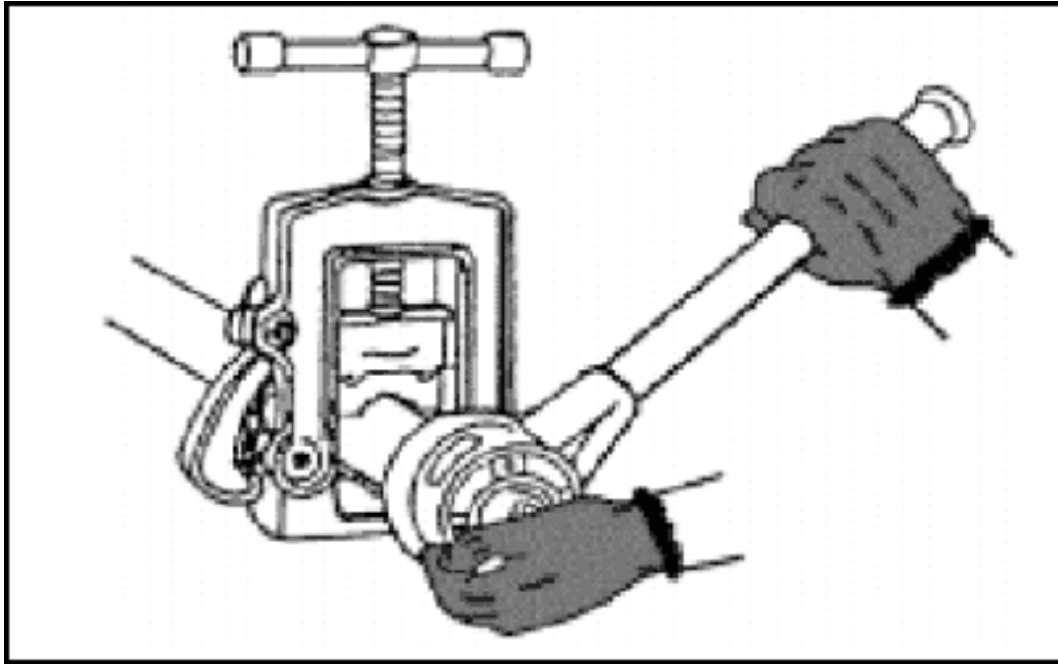

Figure 6-29. Threading Pipe
Step 2. Slide the diestock over the end of the pipe with the guide on the inside. Push the die against the pipe with one hand (Figure 6-29).